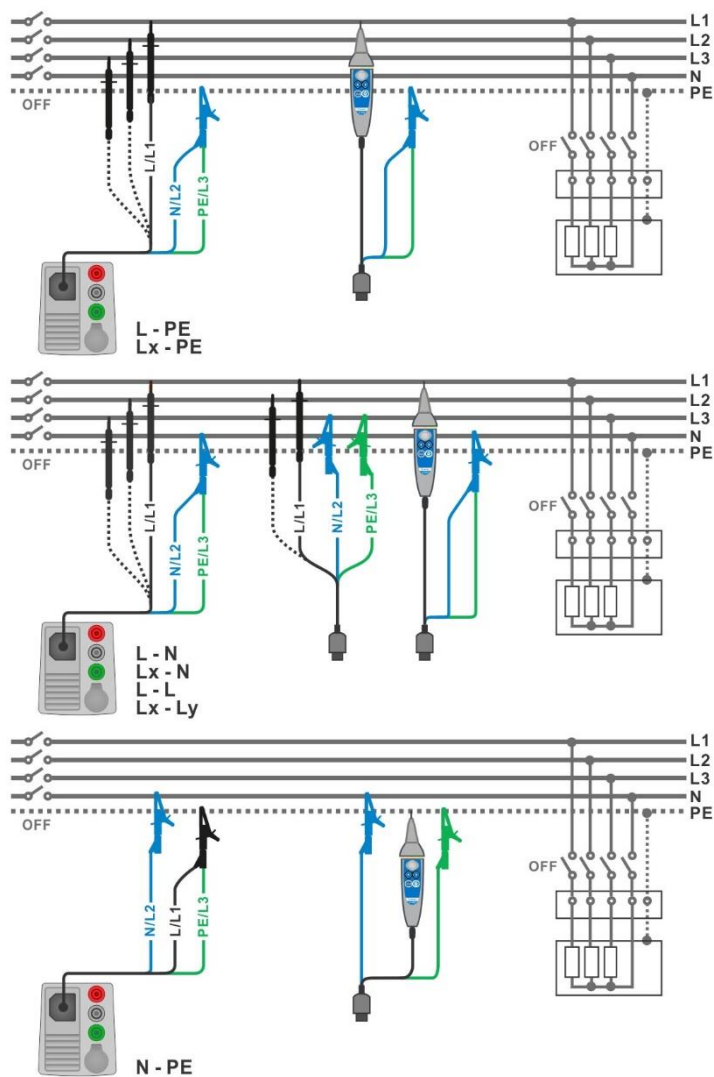
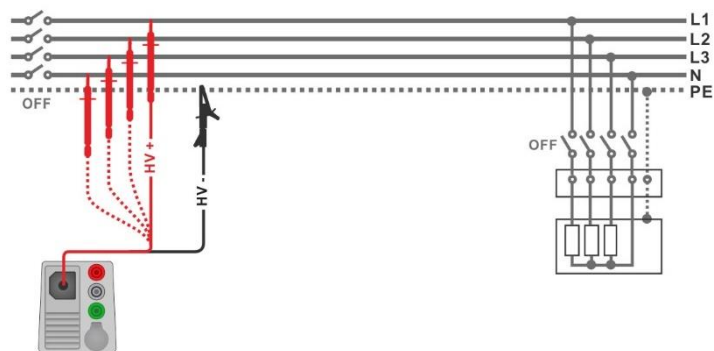

Figure 7.7: Connections of 3-wire test lead and Tip commander ($U_N \leq 1$ kV)
Figure 7.8: Connection of 2.5 kV test lead ($U_N = 2.5$ kV)
- › Connect test leads to object under test (see **Figure 7.7** and **Figure 7.8**).